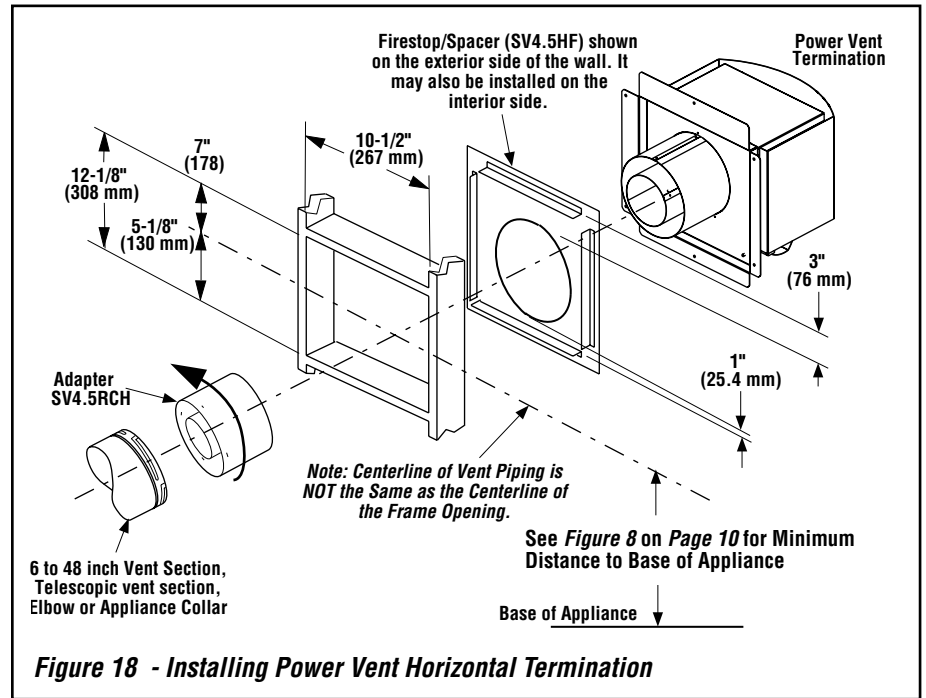

Figure 18 - Installing Power Vent Horizontal Termination
K. Attach termination adaptor - Attach the adaptor (adaptor - SV4.5RCH - provided with the power vent kit) to the vent section telescoping vent section, or elbow, as shown in **Figures 18 and 19 (Page 17)** in the same manner as any SV4.5 vent component.
Install SV4.5HF Firestop/Spacer, provided with the power vent kit, over the opening at the exterior side of the framing, long side up, with the 3 inch spacer clearance at the top as shown in **Figure 18**, and nail into place.